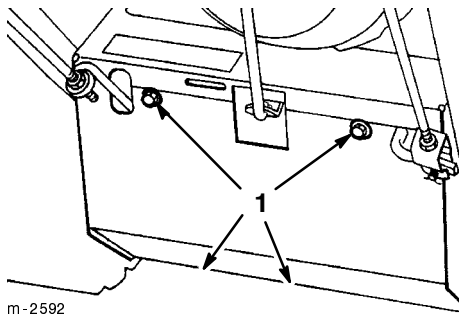

Figure 24
- Remove the four screws that secure the bottom cover to the frame and remove the cover (Fig. 24).